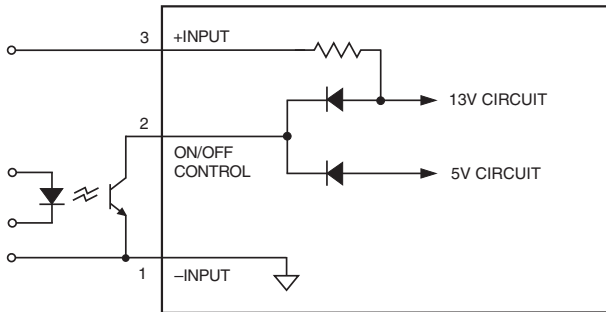

Figure 8. Driving the Negative Polarity On/Off Control Pin
**Positive** (no suffix): standard models are equipped with Positive-polarity and are enabled when pin 2 is left open (or is pulled high, applying  $+3.5V$  to  $+13.5V$  with respect to  $-Input$ , pin 1) as per Figure 8. Positive-polarity devices are disabled when pin 2 is pulled low (0 to  $0.8V$  with respect to  $-Input$ ).